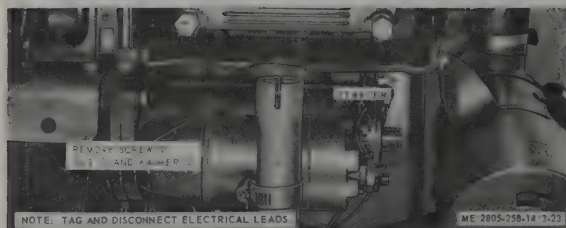

Figure 3-23. Starter, removal and installation.
b. *Removal.* Refer to figure 3-23 and remove starter.
(1) Clean starter with an approved cleaning solvent and dry thoroughly.
(2) Inspect starter for cracks, breaks, and other damage.
(3) Replace a damaged or defective starter.
d. *Installation.* Refer to figure 3-23 and install starter.